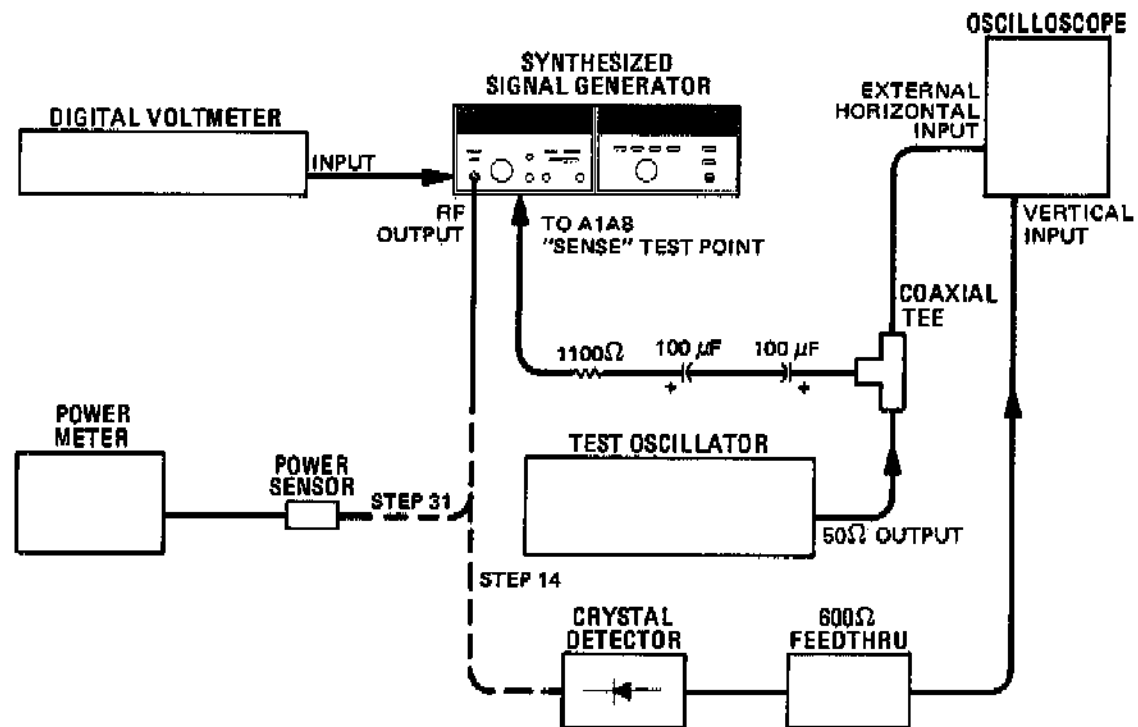

Figure 5-13. YTM Adjustments Test Setup
14. Connect the equipment as shown in Figure 5-13.